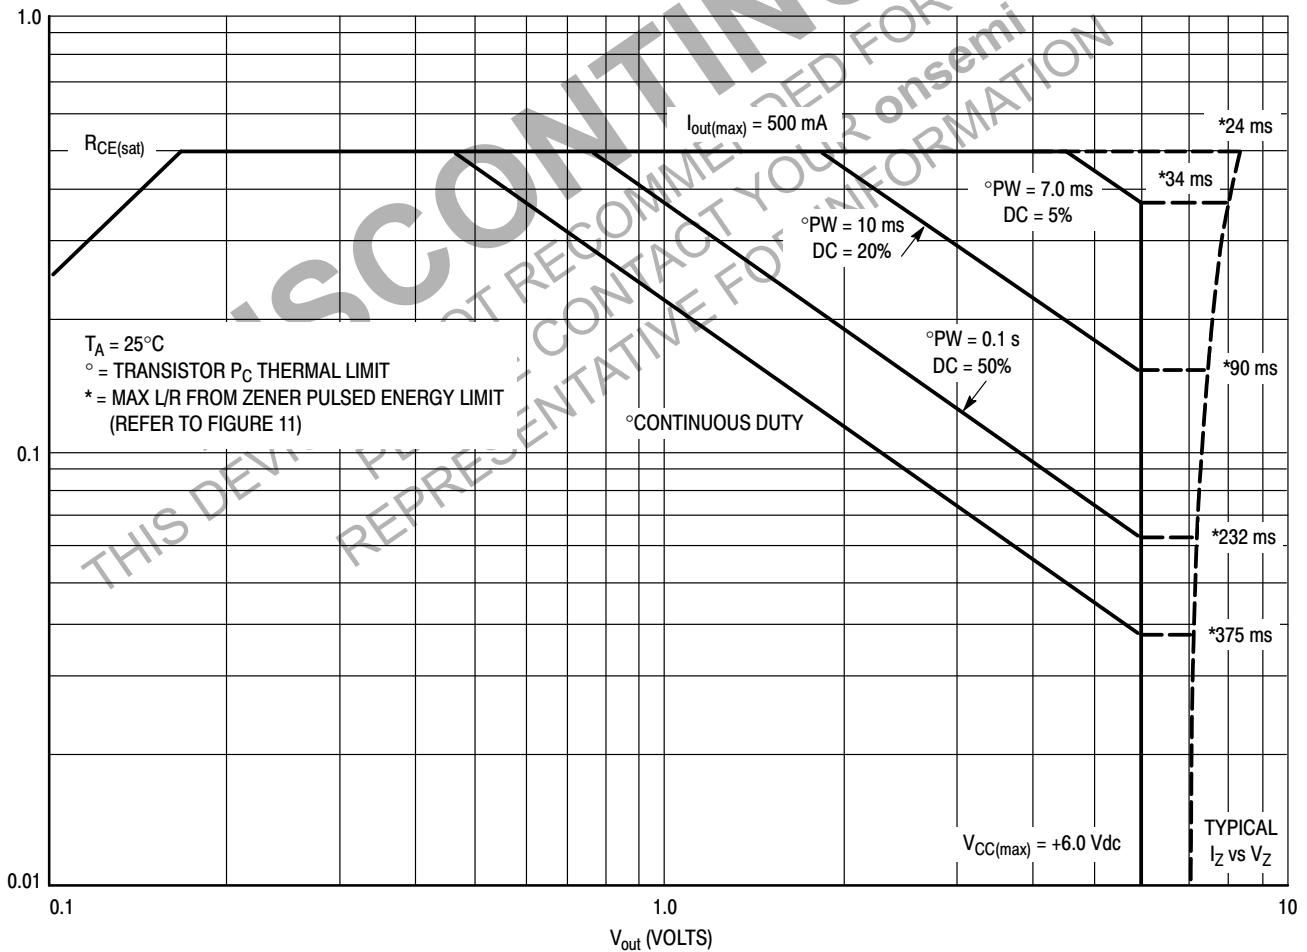
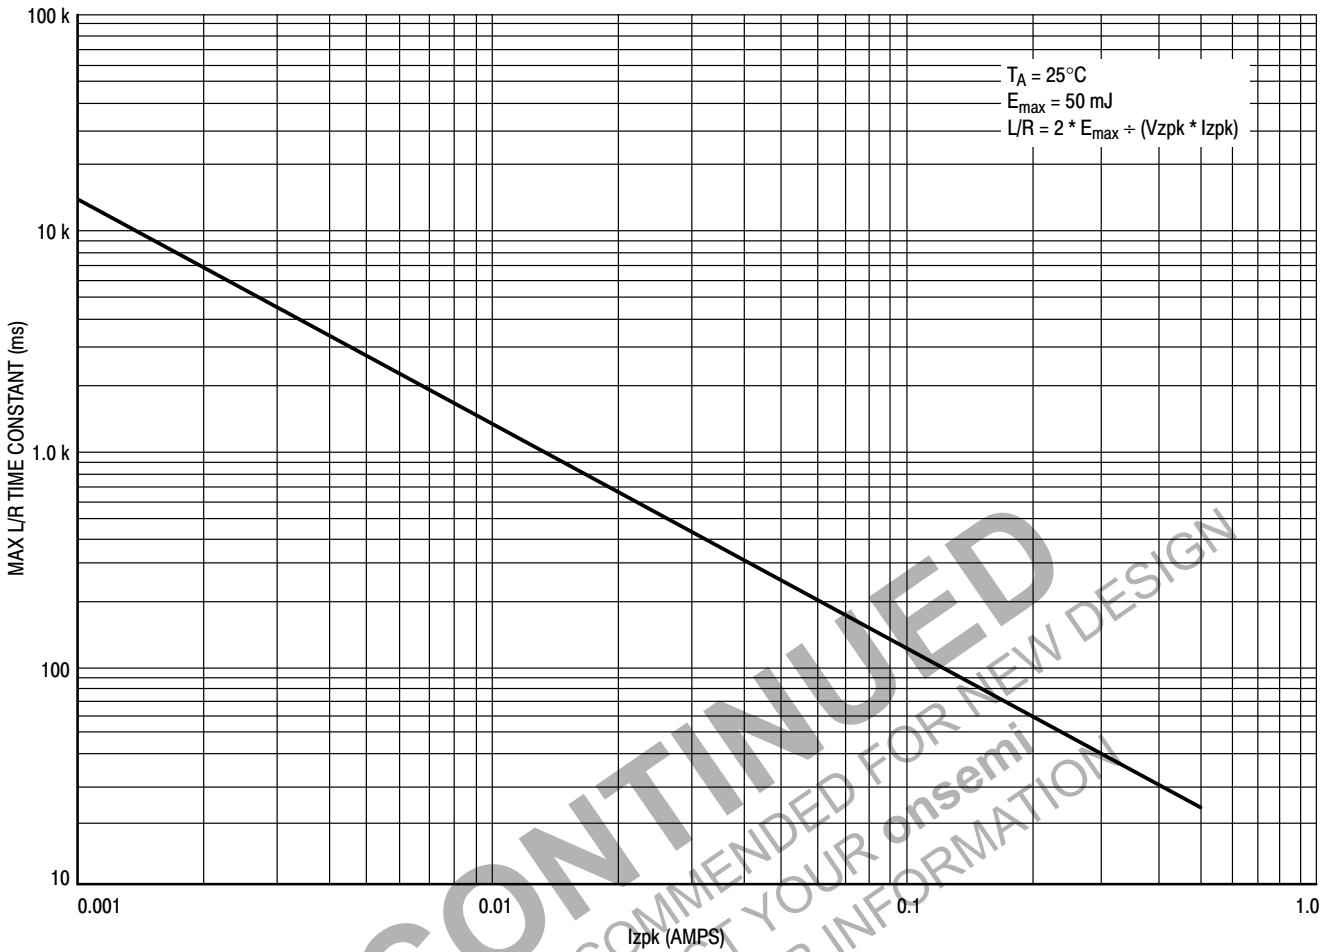

Figure 10. Safe Operating Area for MDC3105LT1
Figure 11. Zener Repetitive Pulse Energy Limit on L/R Time Constant for MDC3105LT1
Figure 10 is the Safe Operating Area (SOA) for the MDC3105. Device instantaneous operation should never be pushed beyond these limits. It shows the SOA for the Transistor "ON" condition as well as the SOA for the Zener during the turn-off transient. The max current is limited by the  $I_{zpk}$  capability of the Zener as well as the transistor in addition to the max input current through the resistor. It should not be exceeded at any temperature. The BJT power dissipation limits are shown for various pulse widths and duty cycles at an ambient temperature of  $25^{\circ}C$ . The voltage limit is the max  $V_{CC}$  that can be applied to the device. When the input to the device is switched off, the BJT "ON" current is instantaneously dumped into the Zener diode where it begins its exponential decay. The Zener clamp voltage is a function of that BJT current level as can be seen by the bowing of the  $V_Z$  versus  $I_Z$  curve at the higher currents. In addition to the Zener's current limit impacting this device's 500 mA max rating, the clamping diode also has a peak energy limit as well. This energy limit was measured using a rectangular pulse and then translated to an exponential equivalent using the 2:1 relationship between the L/R time constant of an exponential pulse and the pulse width of a rectangular pulse having equal energy content. These L/R time constant limits in ms appear along the  $V_Z$  versus  $I_Z$  curve for the various values of  $I_Z$  at which the  $Pd$  lines intersect the  $V_{CC}$  limit. The L/R time constant for a given load should not exceed these limits at their respective currents. Precise L/R limits on Zener energy at intermediate current levels can be obtained from Figure 11.
3. Use Figures 10 and 11 with the SOA notes above to insure that instantaneous operation does not push the device beyond the limits of the SOA plot.